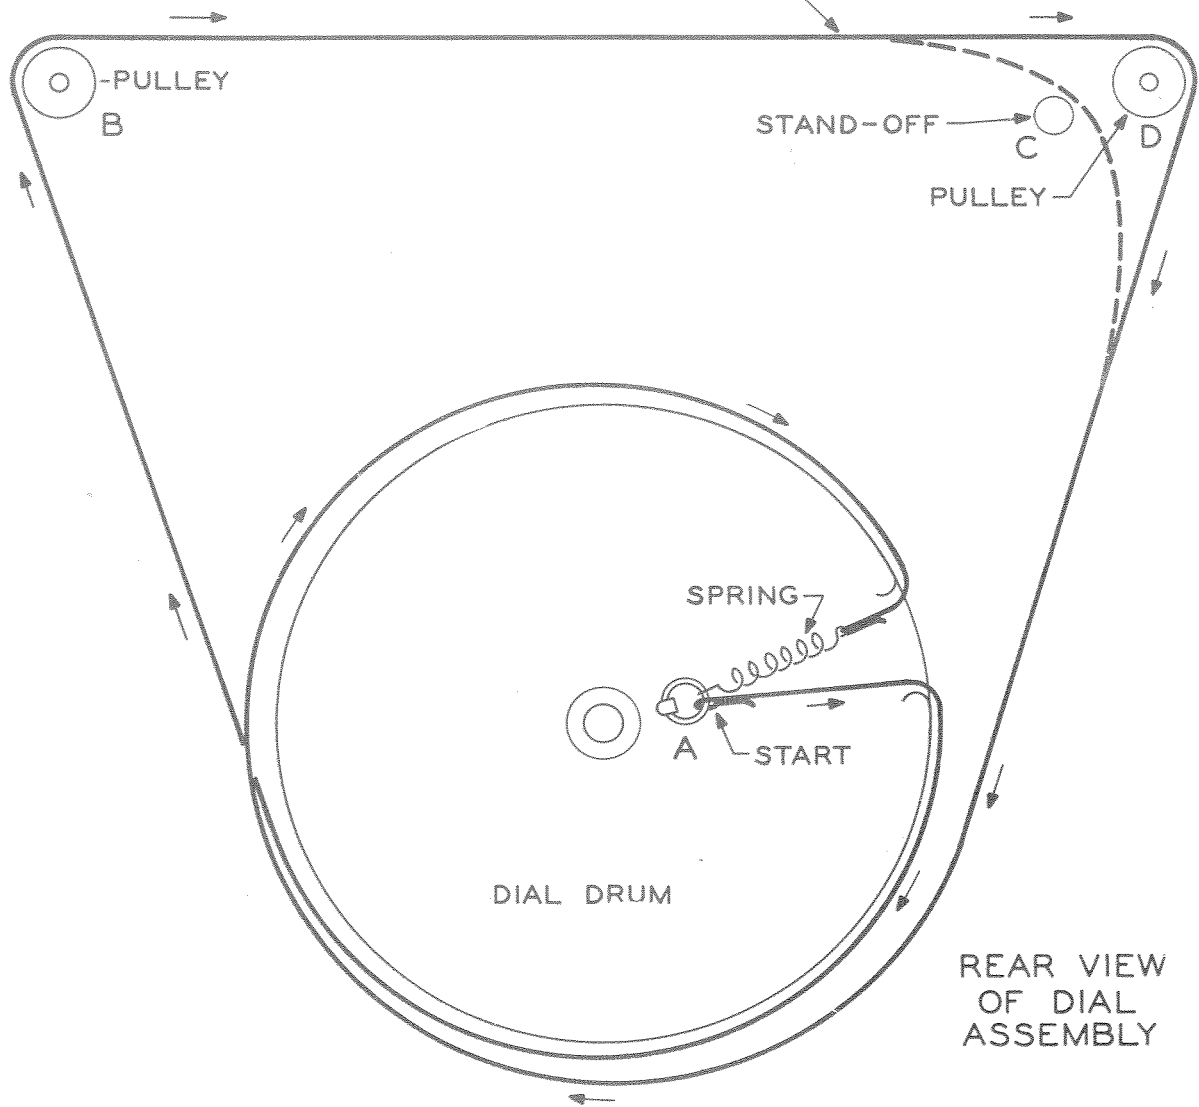

Figure 5-2 Dial Restringing Drawing
d. Shove the washer end of the dial cord through the rim of the dial drum and hook the washer on the tab (A). Pull the cord taut.
e. Refer to figure 5-2. With the rear of the dial toward you go around the lower half of the drum (clockwise looking at the rear) and up to the left hand pulley (B). Go around this pulley toward the right hand pulley.
f. Remove the right hand pulley (D) by extracting the mounting screw.
g. Go around the adjacent standoff (C) and then down to the drum.
i. Take up the slack and bunch it at the right hand pulley (D) position. Do not force the spring too far.
j. Engage the groove of the right hand pulley (D) with the cord, slide the pulley into position then insert the pulley mounting screw.
l. Set the KC dial at 0 then attach the slide rule dial pointer to the cord as shown in figure 5-2. Slide the pointer to the extreme left-hand index (viewed from front) of the slide rule dial and stake with a few drops of Duco Cement.